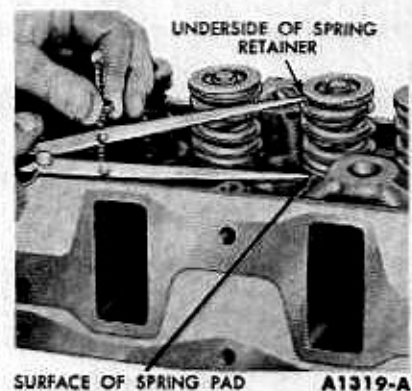

FIG. 21—Valve Spring Assembled Height
5. Measure the assembled height of the valve spring from the surface of the cylinder head spring pad to the underside of the spring retainer with dividers (Fig. 21).